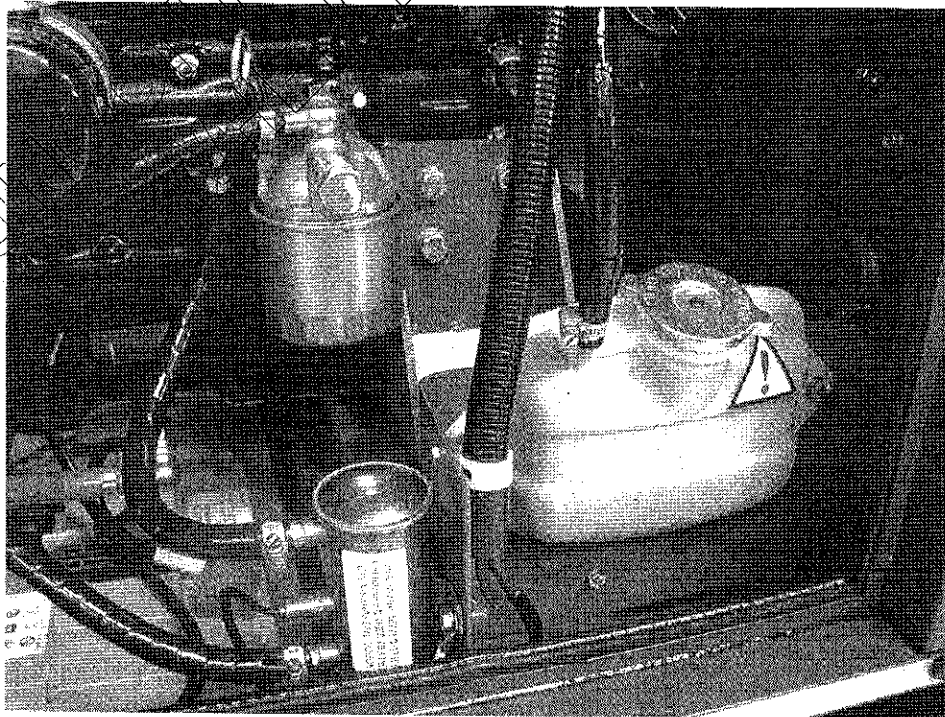

Fig 6 Expansion bottle and fuel filter
- 26 Change the fuel filter element (Fig 6). Refer to Annex A, Para 104.